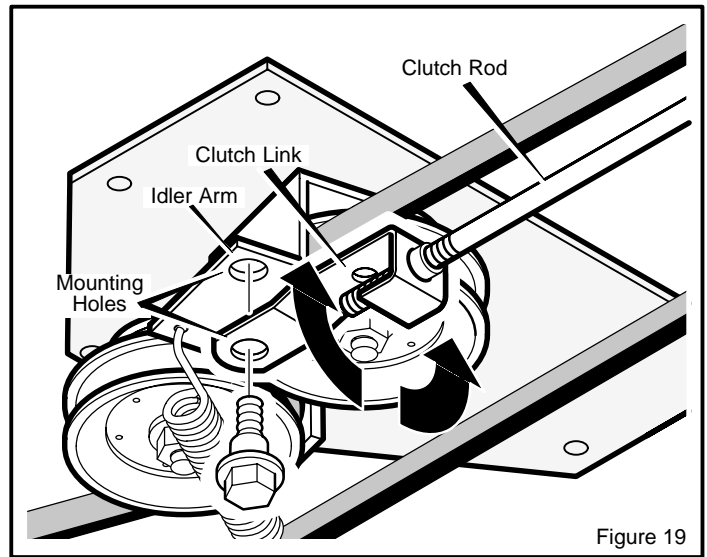

Figure 19
2. Disconnect the **clutch link** from the **idler arm** (Figure 19).
4. Rotate the **clutch link** until the mounting hole in the **clutch link** is aligned with the hole in the **idler arm** as shown in Figure 19.
5. Connect the **clutch link** to the **idler arm** (Figure 19).